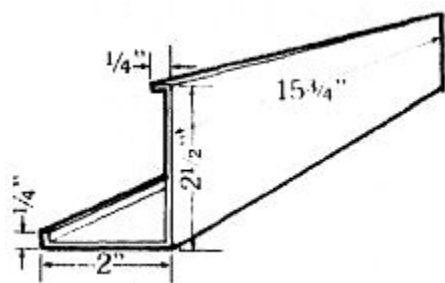

Figure 13.26-Baffle sealer.
19. Form the baffle sealer. Cut a strip 5 inches wide and 1/4 inch shorter than the width of your stove body and fold according to Figure 13.26.